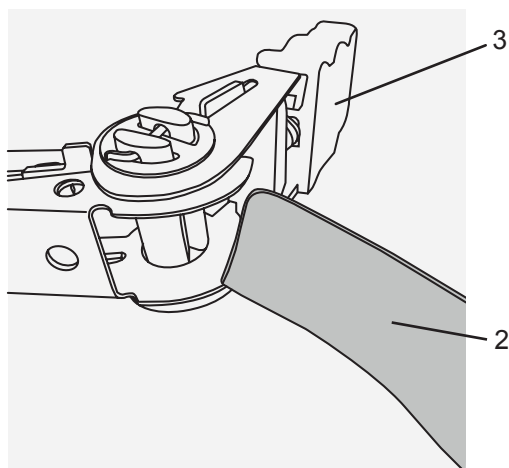

Figure 3
Only pull the strap (2) out of the support tube until it can be placed around the saddle tube. Then place the loose end of the strap around the handlebar steering head and push it into the open ratchet (3) (Figure 3).